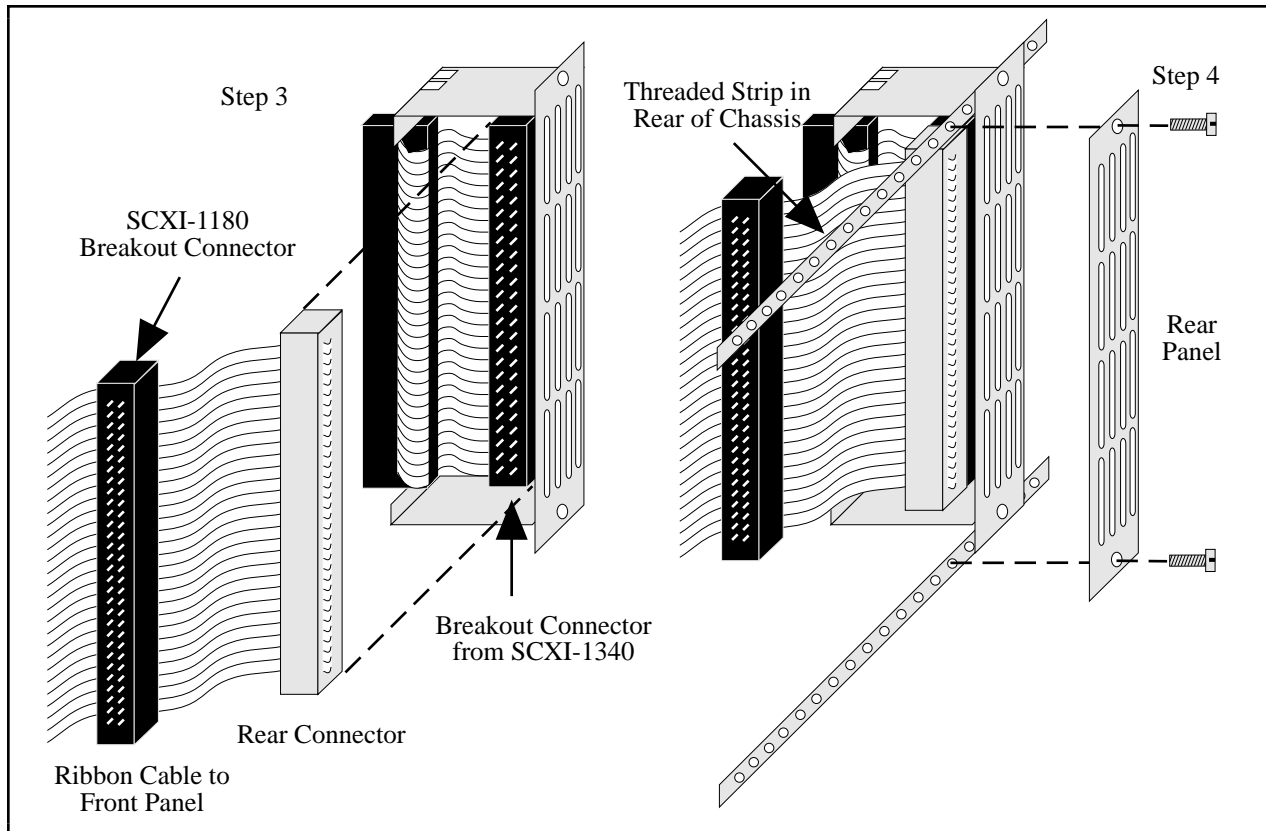

Figure E-3. SCXI-1180 Rear Connections
3. Thread the rear connector through the front of the chassis to the rear of the chassis. Attach the rear connector to the breakout connector of the adjacent cable assembly or slot extender, as shown in Figure E-3.
3. Connect the rear connector of the cable extender to the breakout connector in the adjacent slot. This attachment is similar to Step 3 in the *SCXI-1180 Installation* section, as shown in Figure E-3.